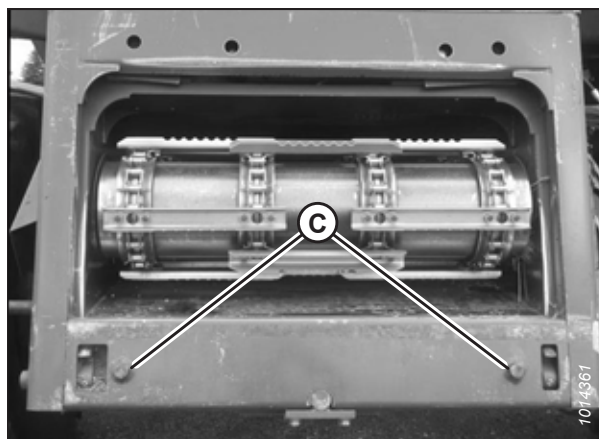

Figure 3.98: AGCO Group Alignment Pins
Ensure that alignment pins (C) (refer to Figure 3.98, page 84) on the feeder house align with holes (B) in the float module frame.